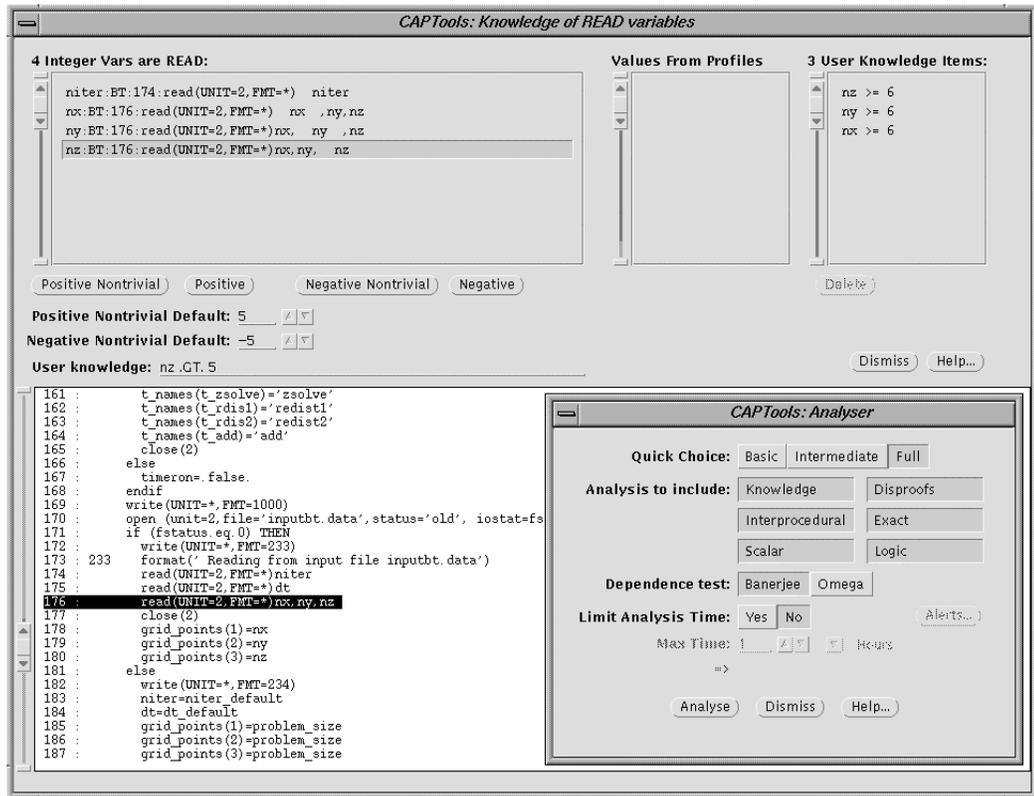

Figure T5-1: The READ Knowledge window for entering user knowledge and the Analyser window.
- 1. Load source and enter user knowledge.** Click **Load F77 Source** in the **File** menu. Select `All.list` and click the **Load** button. Select **READ Knowledge** from the **Edit** menu. In the **READ Knowledge** window, select variable `nx` and click **Positive Nontrivial**, see Figure T5-1 on next page. Apply the same steps to variables `ny` and `nz`. These three variables define the number of grid points in each dimension. Making them positive nontrivial improves the quality of data dependence analysis in Step 2.